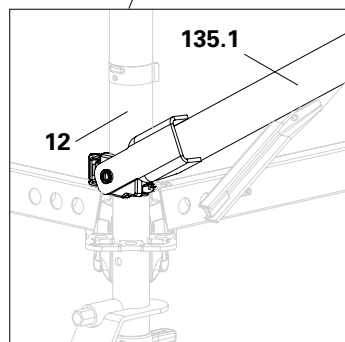

Fig. A15.07b
1. Vertically reinforce the multi brace (**135**) with an outer tube (**135.1**). Fit the outer tube to the standard (**12**) (Fig. A15.07b) and to the inner tube (**135.2**), close to the outer tube. The assembly position has an impact on the support angle.